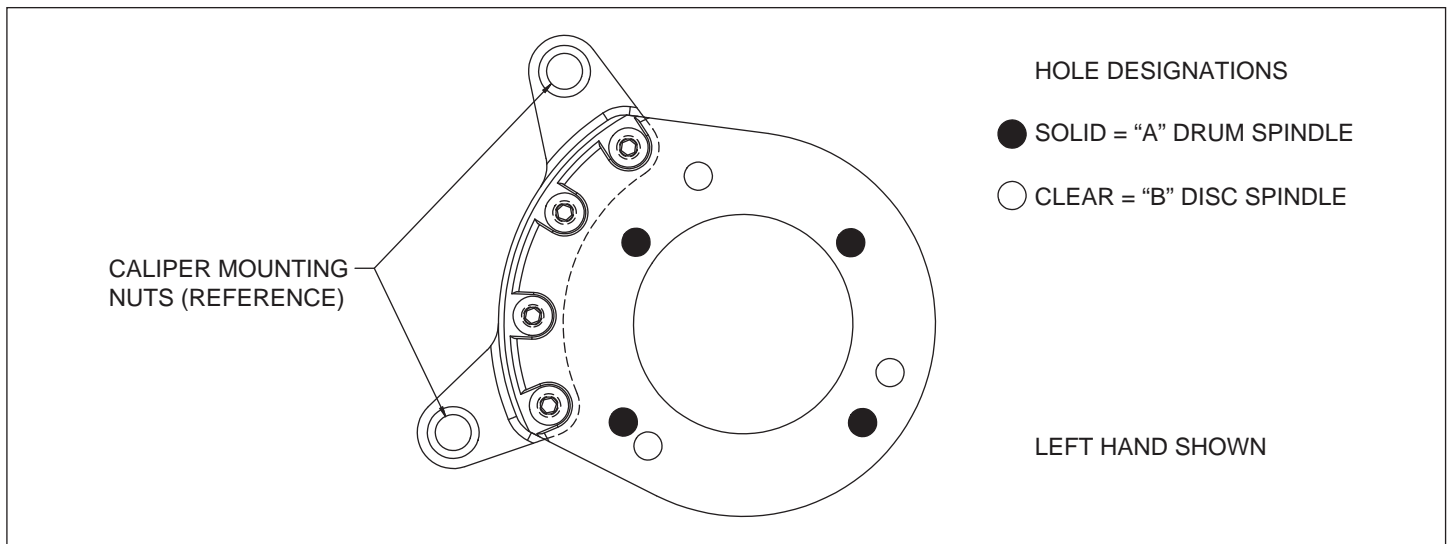
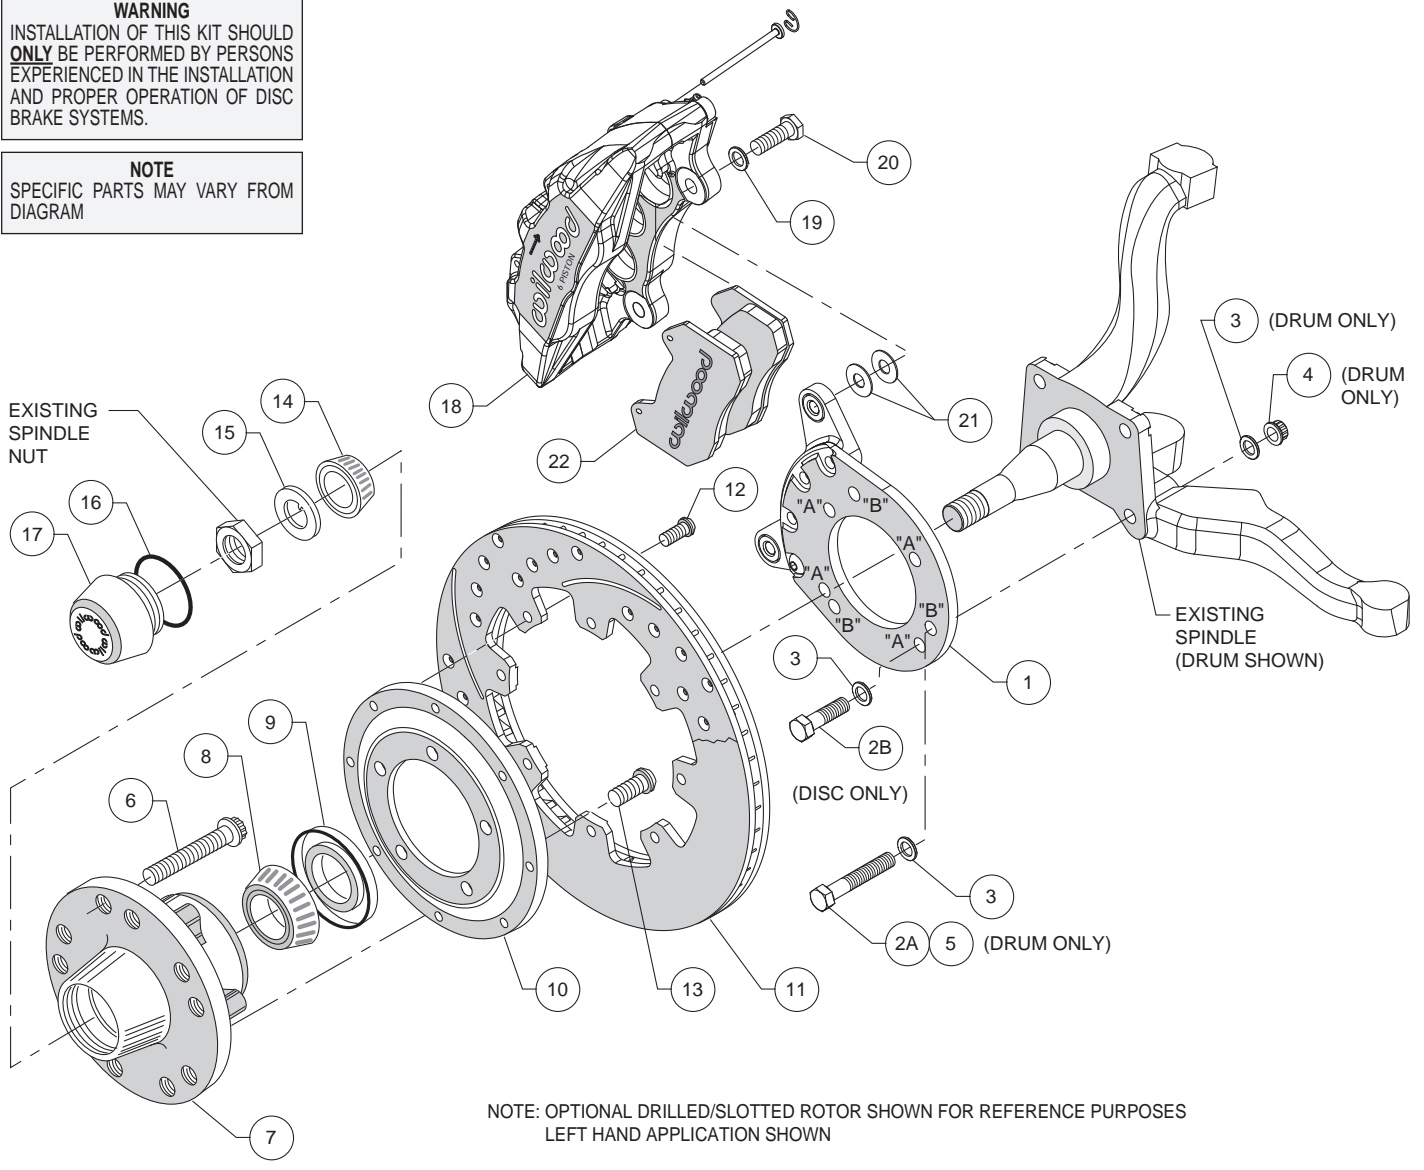
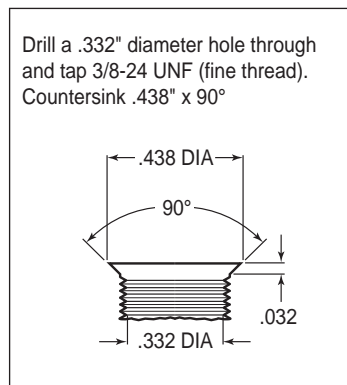
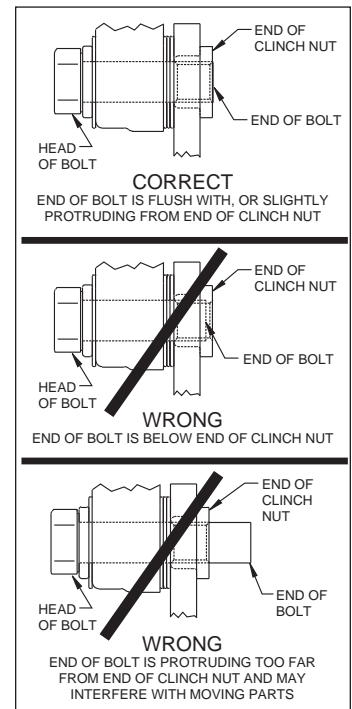

Figure 1. Wilwood Caliper Mounting Bracket
Figure 2. Typical Installation Configuration
Figure 3. Drill and Tap Detail
Figure 5. Clinch Nut Engagement Diagram
This kit has been designed for use with both the disc brake or the drum brake configuration of vehicle. The only difference is in how the Wilwood caliper mounting bracket is installed. The same bracket is used for both configurations; the disc brake version utilizes three mounting holes while the drum brake application uses four mounting holes (see Figure 1). For your convenience we have supplied bolt kits for both applications (see parts list and Figure 2 as necessary). Use the bolt kit that is applicable to your vehicle and disregard the other one.
NOTE: This modification should be performed by a qualified machinist and completed before assembly of the Wilwood disc brake kit begins. Using the caliper mounting bracket as a template (refer to Figure 1 as necessary), locate and verify the three original holes on the spindle that need to be modified. Drill a .332" diameter hole through all three holes, then tap 3/8-24 UNF (fine thread). Countersink the holes to .438" diameter x 90°, as shown in Figure 3.
Assembly Instructions (numbers in parenthesis refer to the parts list, and Figure 2 on the preceding pages): **CAUTION:** All mounting bolts must fully engage clinch nuts. Be sure to check that all bolts are either flush or protruding through flanged side of clinch nut after shimming, Figure 5.
•**NOTE:** This kit uses the same mounting bracket (1) for both the drum and disc brake spindles. The drum version, Photo 1 uses four mounting bolts (designated "A"), while the disc version, Photo 2, uses three (designated "B"). Refer to Figures 1 and 2 for the basic installation position of the bracket and the "A" and "B" reference designations (not physically marked on the brackets).
For Drum Spindle: Align bracket, using the four "A" holes, to the face of the spindle and attach using bolts (2A and 5), washers (3), and lock nuts (4), as shown in Figure 2. Ensure that the flanged heads of the clinch nuts in the bracket are facing outboard, Photo 1. Torque nuts to 30 ft-lb.
For Disc Spindle: Align bracket, using the three "B" holes, to the face of the spindle and attach using bolts (2B) and washers (3), as shown in Figure 2. Finger tighten. Ensure that the flanged heads of the clinch nuts in the bracket are facing outboard, Photo 2. Remove bolts one at a time, apply red *Loctite*® 271 to threads, and torque to 40 ft-lb.
•Install wheel studs (6) into the hub (7), Photo 3. Torque to 77 ft-lb. **NOTE:** There are two five lug patterns in the hub (5 x 4.50 and 5 x 4.75). Ensure the correct hub stud pattern is being used to fit the wheel application.
•Pack the large inner bearing cone (8) with high temperature disc brake bearing grease (available from your local auto parts store) and install into the backside of the hub (7), Photo 4.
•Install the grease seal (9) by pressing into the backside of the hub (7), flush with the end of the hub, Photo 4.
•Orient the rotor (11) and the rotor adapter (10) as shown in Figure 2 and Photo 5. Attach the rotor to the adapter using bolts (12). Using an alternating sequence, apply red *Loctite*® 271 to the threads, and torque to 25 ft-lb.
•Mount the adapter/rotor assembly (10/11) to the hub (7) using bolts (13), as shown in Figure 2 and Photo 6. Using an alternating sequence, apply red *Loctite*® 271 to the threads, and torque to 55 ft-lb.
•Pack the small outer bearing cone (14) with high temperature disc brake bearing grease and install into hub (7). Slide the hub/rotor assembly onto the spindle. Secure using spindle washer (15) and OEM spindle nut, Photo 7. Adjust bearings per OEM specifications. Install saved OEM nut lock (if any) and a new cotter pin (not included).
- Screw dust cap (17) into hub (7), Photo 8. Friction created by the o-ring (16) on the dust cap keeps it from unscrewing. **NOTE:** The O.D. of the existing OEM spindle washer may be larger than the I.D. of the dust cap not allowing it to seat against the hub face. Therefore, use the spindle washer (15) supplied with the kit instead of the OEM washer.
- NOTE:** Please reference the caution statement at the beginning of the assembly instructions. This kit contains distinct right and left hand calipers that must be mounted in a specific direction, as described below. Mount the caliper (18) onto the caliper mounting bracket (1) using bolts (20) and washers (19), as shown in Figure 2. Initially place two .035" thick shims (21) on each bolt between the caliper and the bracket, Photo 9. Ensure that the caliper is mounted so the largest pistons are at the rotor exit end of the caliper, in relation to the direction of rotor rotation. Temporarily tighten the mounting bolts and view the rotor (11) through the top opening of the caliper. The rotor should be centered in the caliper, Photo 10. If not, adjust by adding or subtracting shims between the bracket and the caliper. Always use the same amount of shims on each of the two mounting bolts. **NOTE:** The end of each bolt must be flush with or slightly protruding from the head of the clinch nut, as shown in Figure 5. If necessary place spare shims between washer (19) and caliper mounting ear to achieve the proper clinch nut engagement. Once the caliper alignment and clinch nut engagement are correct, remove the caliper bolts and caliper.
- Remove the two pad retaining pins from the caliper (18) by carefully popping out the pin retaining clips and sliding out the pins. Insert the brake pads (22) into the caliper from the bottom, Figure 1 and Photo 11, with the friction material facing the rotor. Secure the brake pads in place with the pad retaining pins and clips, Photo 12. Reinstall the caliper onto the caliper mounting bracket. Apply red *Loctite*® 271 to bolt threads (20), and torque to 40 ft-lb.